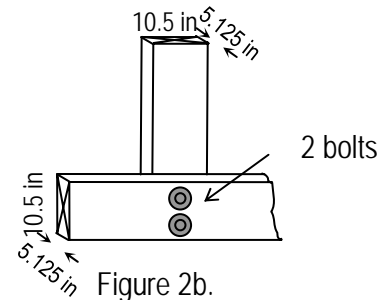

Figure 2b.
- The bottom chord that is continuous the length of the truss is connected as shown in Figure 2b. The joints are considered pinned for analysis.